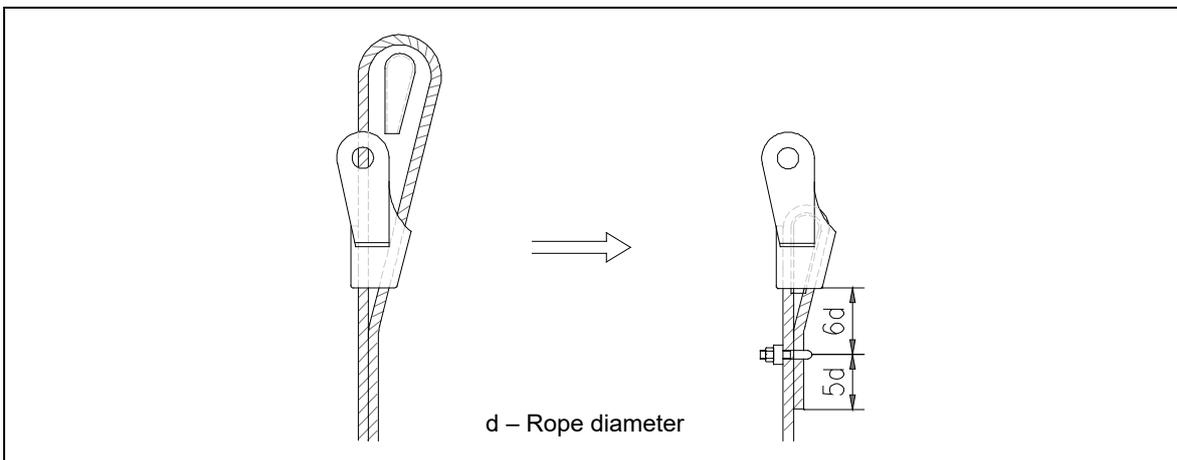

Figure 4-90 Rope clamp installation
- (2) Put the wire rope on the winch spool smoothly and in sequence.
- (3) For methods of installing socket and rope clamp, please refer to Figure 4-90.